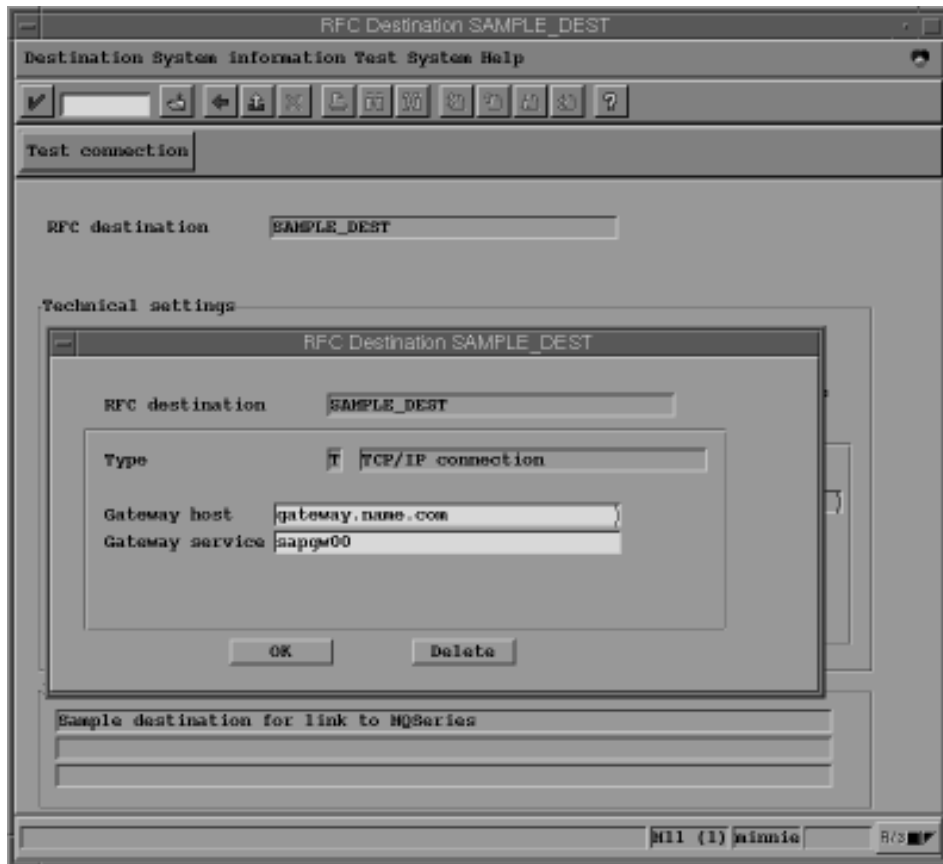

Figure 11. RFC Destination panel: specifying a gateway host and service
6. Choose the Gateway options from the Destination menu (on the menu bar) to display the pop-up panel shown in Figure 11 on page 25.
7. In Figure 11 on page 25, specify values for the *Gateway host* and the *Gateway service* fields. These values should already be defined for your system. If you do not know what to put in here, talk to your SAP administrator.